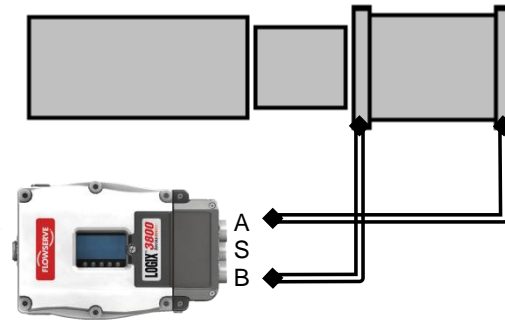

Figure 23: Rotary, Double Acting, Air to Open
- 1 Assemble the direct mount block onto the positioner. See figure 23.
For a rotary actuator, rout tubing from Port “A” to the far side of the actuator and tubing from port “B” to the side of the actuator closer to the transfer case. Follow this tubing convention regardless of air action. On rotary actuators, the transfer case orientation determines the air action. See Figure 23: Rotary, Double Acting, Air to Open.